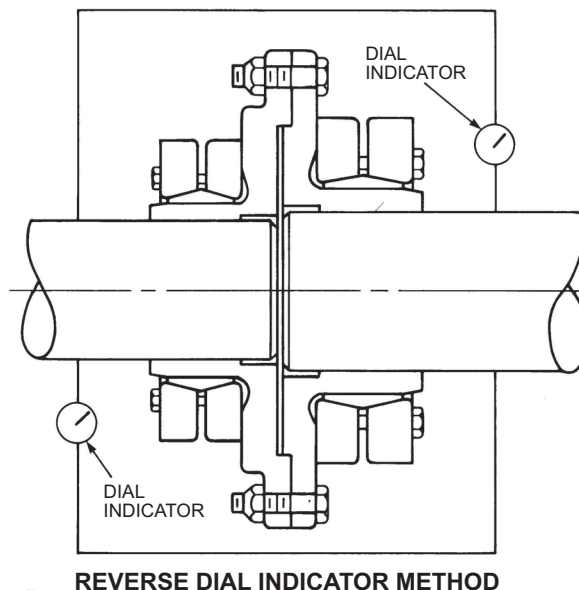

Figure 7
- 10. Using dial indicators per Figure 7, measure assembly runout on driving and driven shafts. Runout values should be within .005" (0.127mm) TIR (total indicator reading) to minimize drive movement.